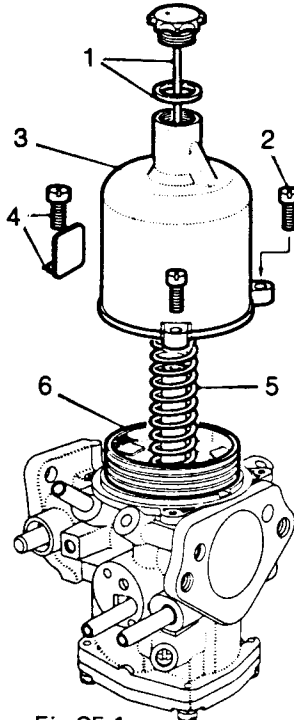

Fig C5.1
- (2) Refer to Fig C5.1. Remove the piston damper (1) and its washer.
- (3) Unscrew the suction chamber retaining screws (2) and remove the identity tag (4).
- (4) Lift the chamber assembly (3) vertically from the body without tilting it.
- (5) Remove the piston spring (5). Lift out the piston assembly (6) and empty the oil from the piston rod.